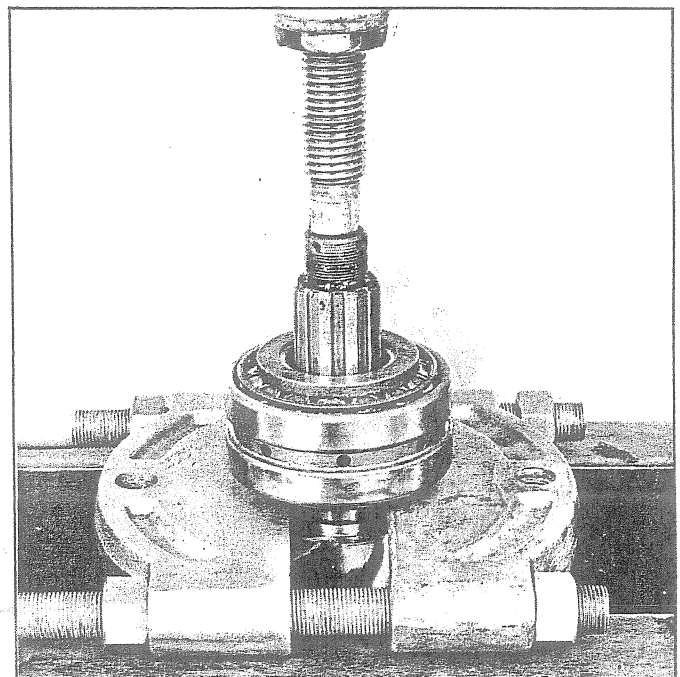

Fig. 109 - Pressing Pinion Shaft from Outer Bearing
9. Press pinion shaft from outer pinion bearings as shown in Fig. 109. Separate outer bearing cone, spacer and inner bearing cone from "dual" bearing cup.